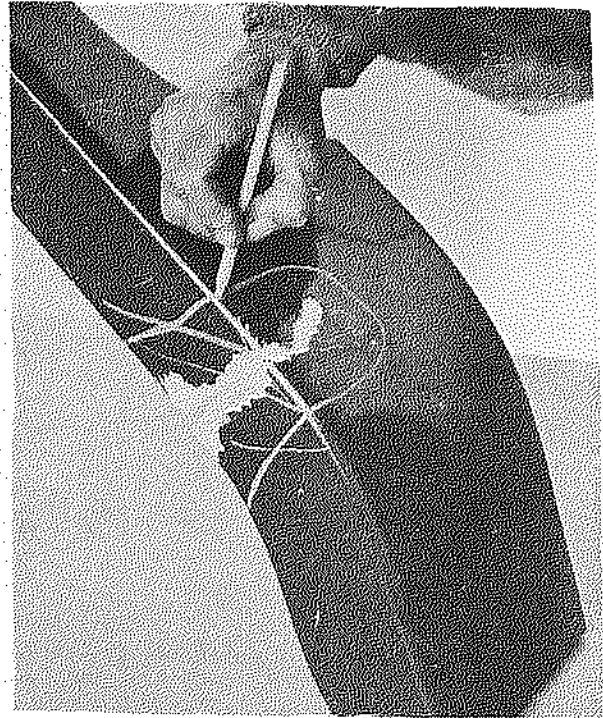

Fig. 2 - Marked Out Damaged Area
1. Mark out damaged area with pencil approximately 2 inches from the fracture as shown in Fig. 2.